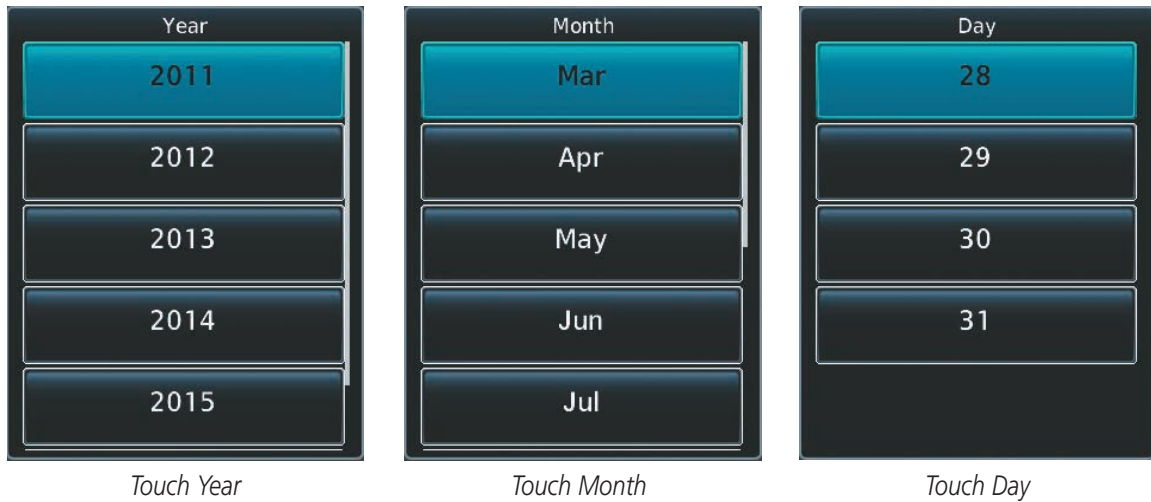

Figure 8-99 Event Date Entry
12) Touch the desired year, as in Figure 8-99, then the month followed by the day.